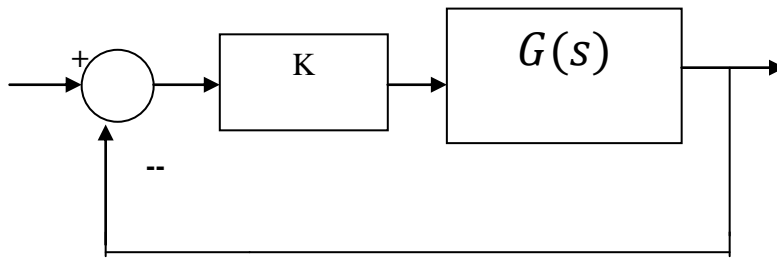

Fig 1
1. Apply unity feedback around $G_4(s)$ along with a forward path gain K as in **Fig 1**.
3.2: Nyquist Plot of an open loop unstable system– Consider the block diagram in **Fig. 1** with